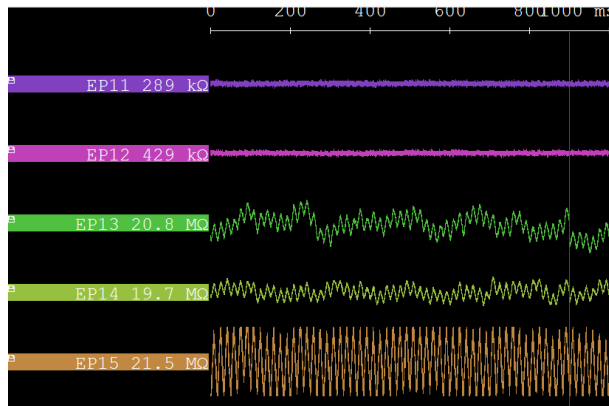

Fig. 153: Screenshot of the Intan signals when there could be an issue with an Intan pin.
- If one channel displays a high amplitude, high frequency signal (i.e. an almost completely blue window) as shown in Fig. 153, this could indicate an issue with the Intan headstage or Omnetics connector.